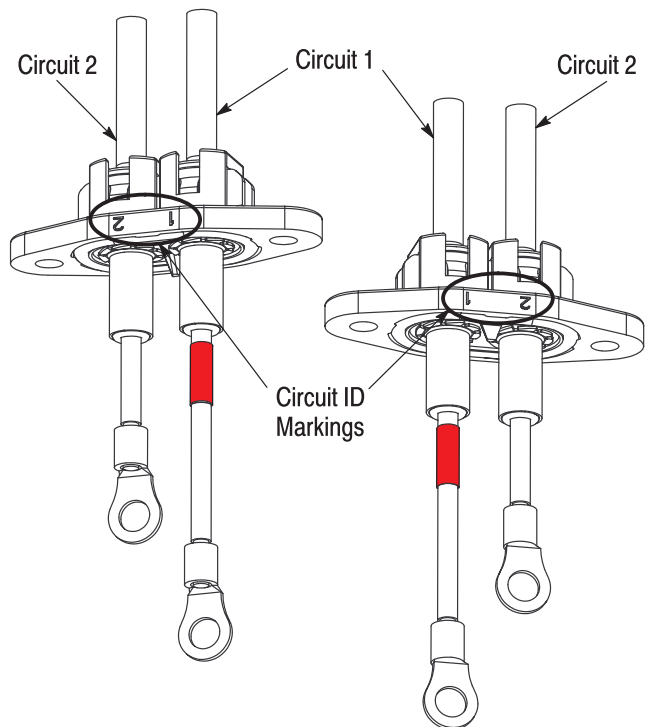

Figure 5
5. Make sure that the circuit ID markings on the APT housing match up with the specific cable circuit IDs, keeping in mind that the circuit IDs on the APT housing are marked on both sides as shown in Figure 5. Unless otherwise specified, cavity 1 is for the positive (+) circuit and cavity 2 is for the negative (-) circuit.